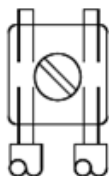

Figure 2: Wire Connection
- Break all in-out wire runs on supervised circuits to ensure integrity of circuit supervision as shown in Figure 2. The polarity shown in the wiring diagrams is for the operation of the appliances. The polarity is reversed by the FACP during supervision.